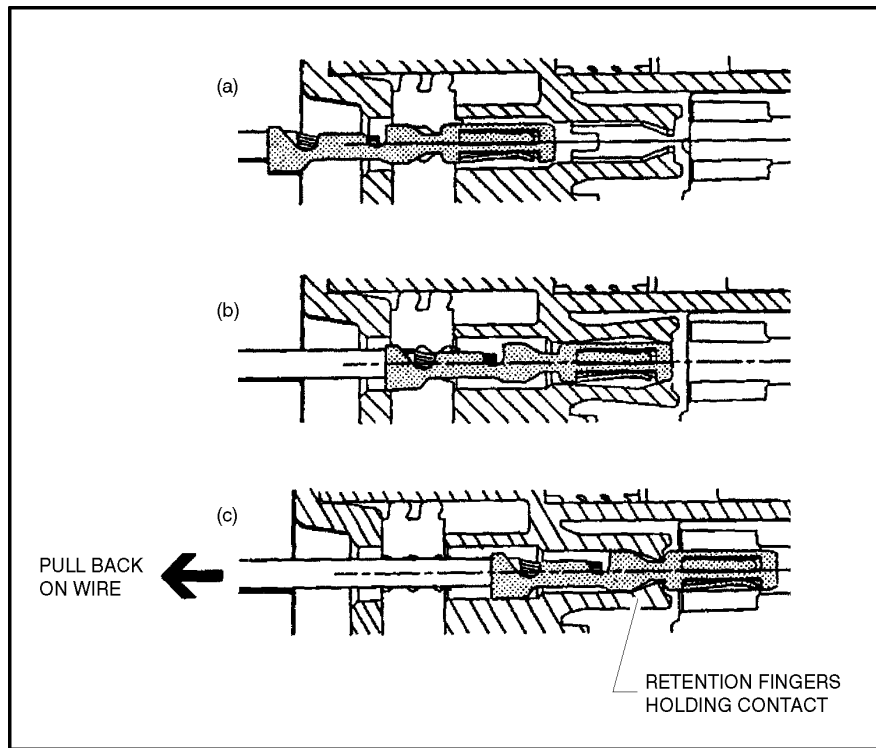

Figure 7-7. Connector Assembly Figure 2
1. To insert a contact, push it straight into the appropriate circuit cavity as far as it will go (See Figure 7-7.).
2. Pull back on the contact wire with a force of 1 or 2 lbs. to be sure the retention fingers are holding the contact (See Figure 7-7.).